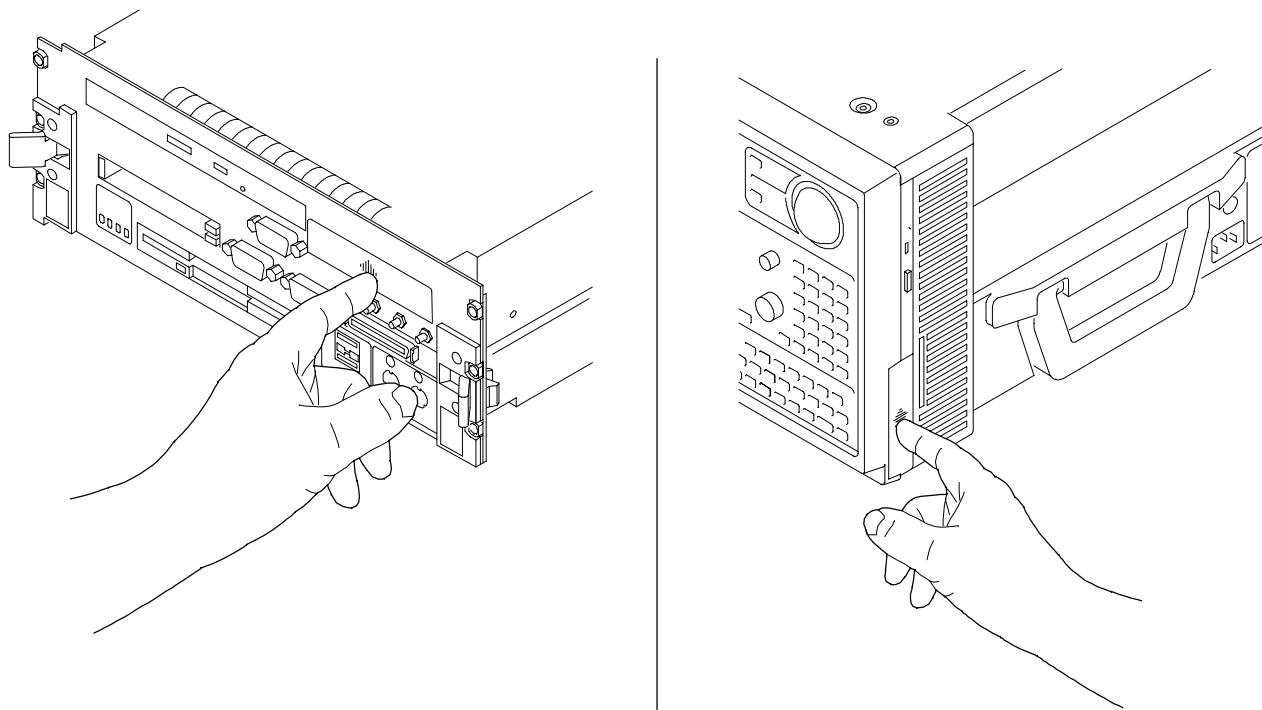

Figure 15: Accessing the TLA700 replaceable hard disk drive
2. Remove the replaceable hard disk drive cartridge by depressing it to release the latch; see Figure 15 on page 22.